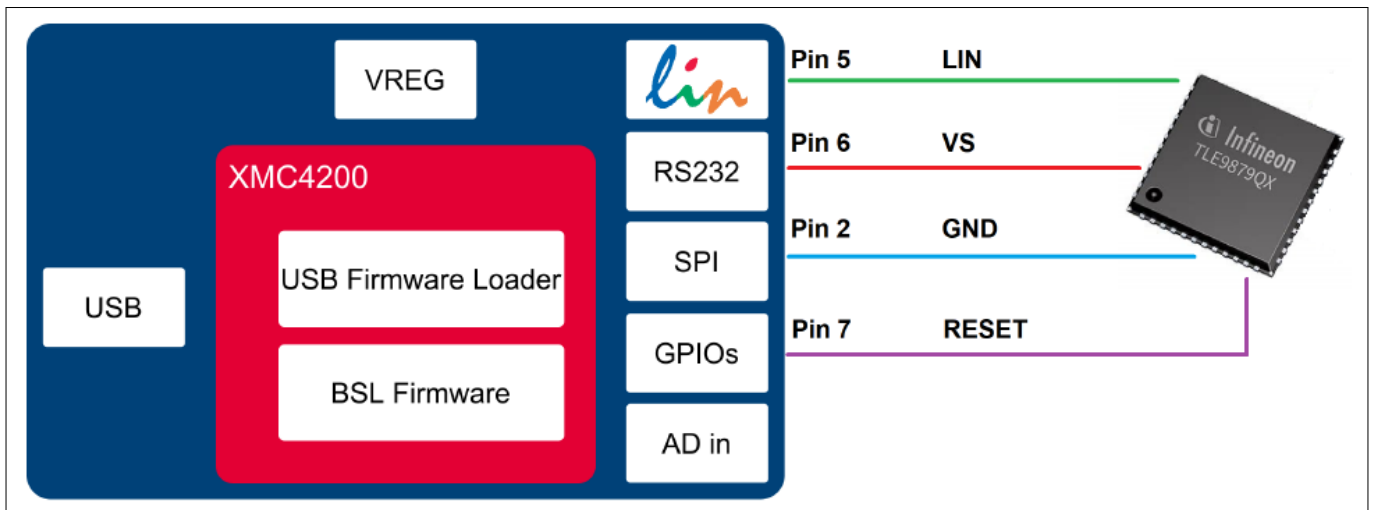

Figure 5 Normal LIN and FastLIN connection, with reset, target supplied by μIO
Figure 5 shows a connection scenario with reset. The μIO-Stick actively resets the target device in order to start BSL communication. In this case a power cycling of the VS (Pin 6) by the μIO-Stick would not be required.
- On - the µIO-Stick integrated charge pump is switched on, and remains on. Please see also Figure 5 on page 9.